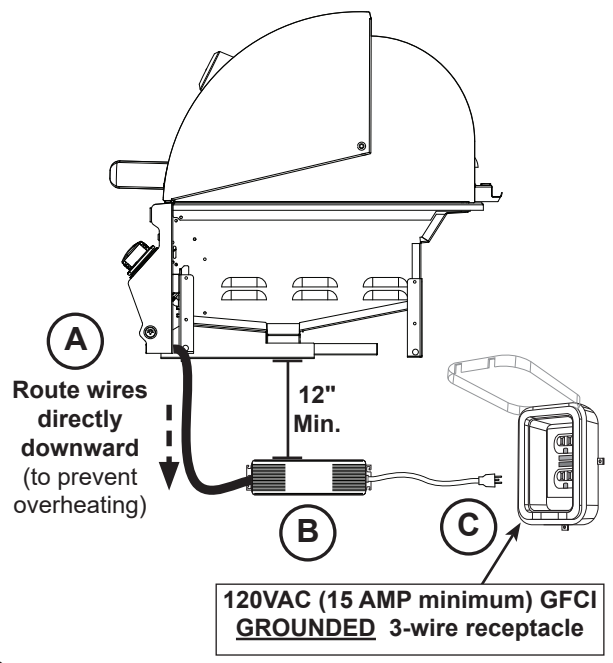

Fig. 26-1 Electrical installation
1. Route the wire harness extension below the control panel and directly downward. This will prevent overheating. **DO NOT** route the wire extension below the grill. See Fig. 26-1, A.
2. Mount the power supply to the inside of the enclosure using appropriate hardware for your enclosure. It **MUST** be located at least 12 inches below the bottom of the unit. See Fig. 26-1, B.
3. Connect the cord coming from the power supply to a **120VAC (15 AMP minimum) GFCI GROUNDED 3-wire receptacle** (see Fig. 26-1, C). The GFCI receptacle must be a WEATHER-PROOF IN-USE COVERED RECEPTACLE.